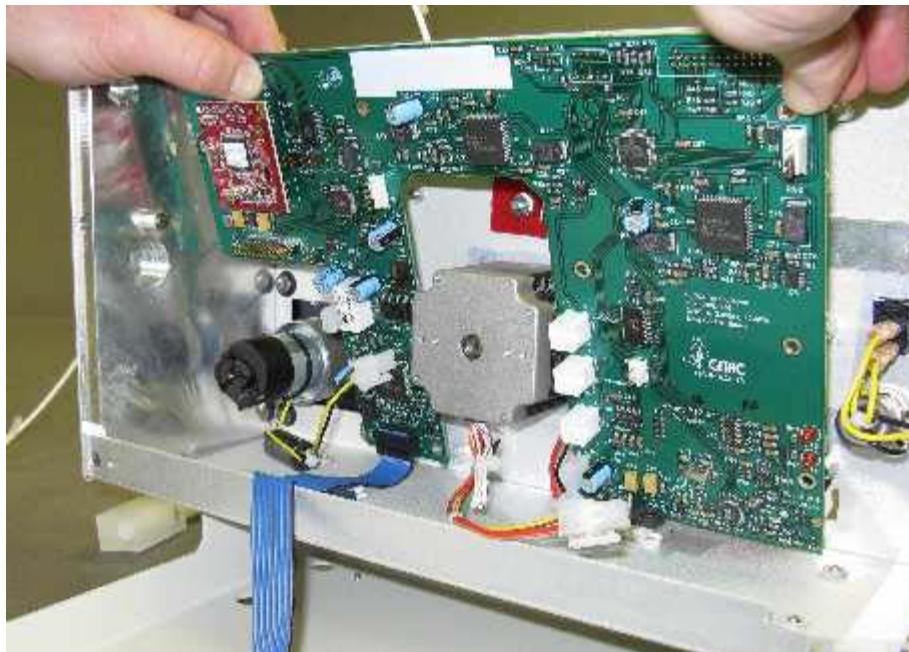

Figure 1-35 Removing the main board. Rabbit processor is the small board in the top left corner (ASX-260).
9. Remove the board by pulling forward from the top (Figure 1-35).